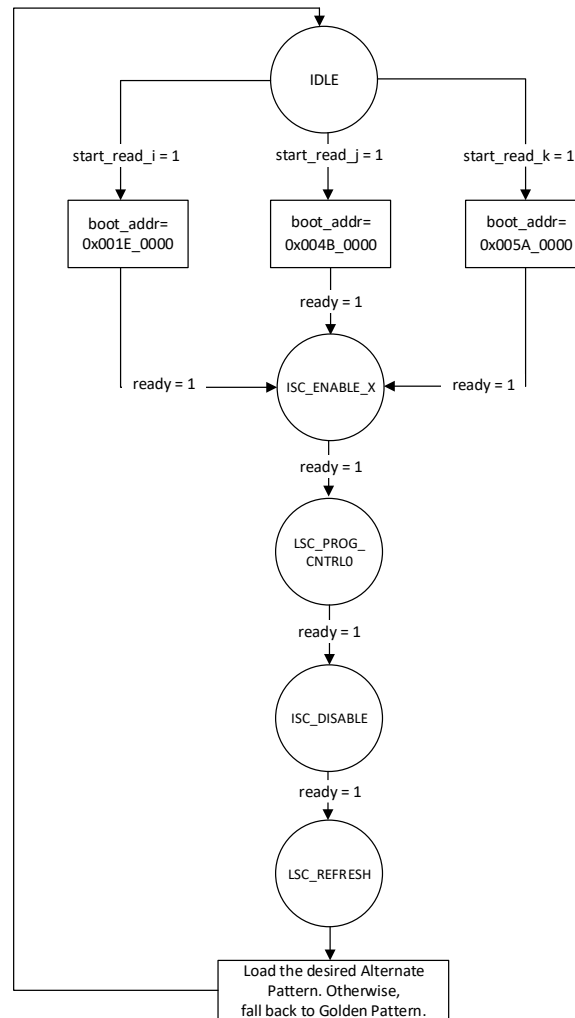

Figure 3.2. State Diagram of Refresh Controller Instance
- **Refresh controller:** Implements a state machine controller to send the necessary commands to the CONFIG_LMMI block, and the boot address to the MULTIBOOT primitive to boot the desired alternate pattern stored in an external SPI flash. The refresh controller performs the following sequences. See Figure 3.2 for more details.